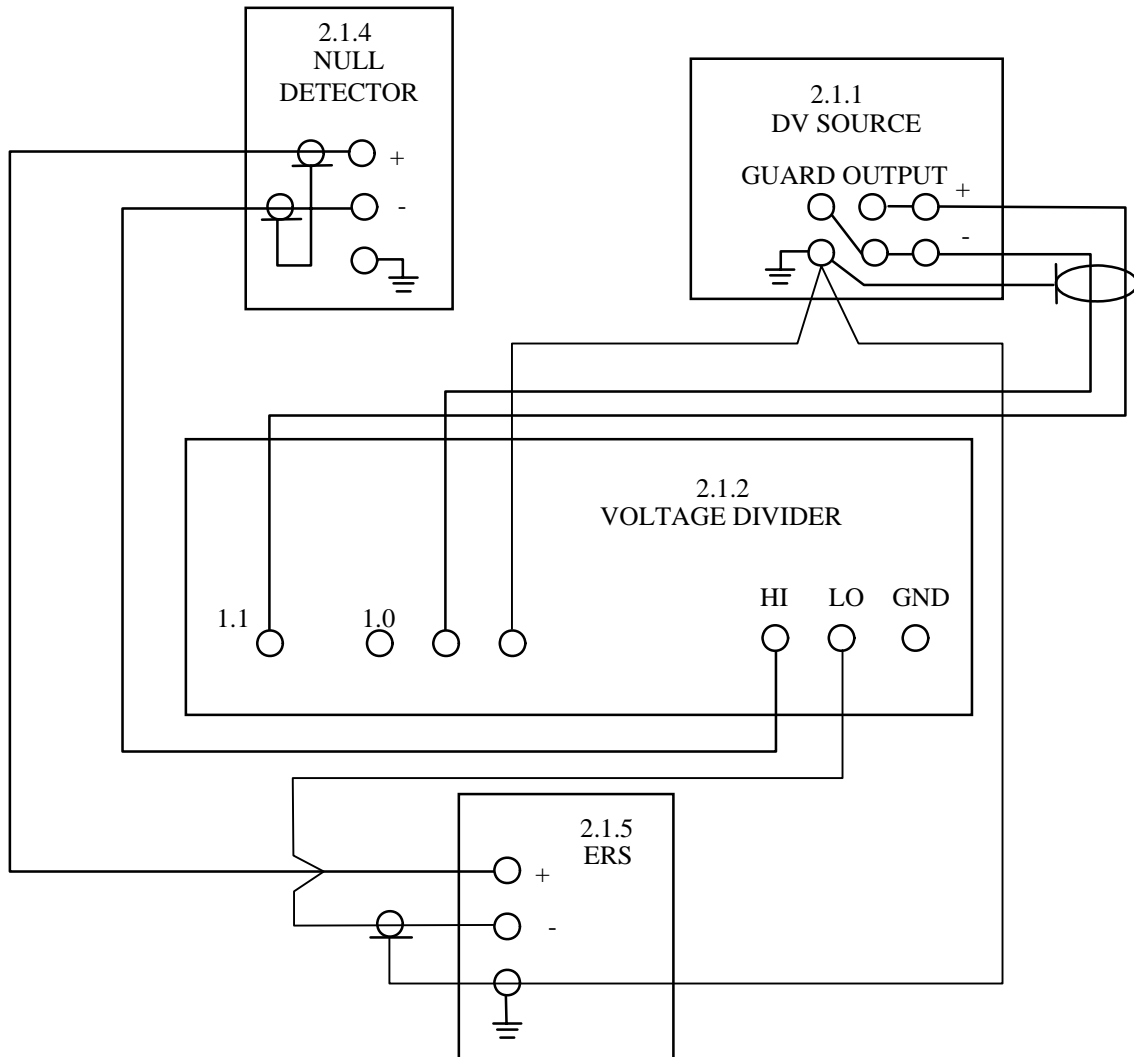

Figure 1. DC Volts Reference Setup (20 V or less)
3.3 Connect the applicable equipment as shown in Figure 1, the reference setup for low voltage tests. Turn the power switches on and allow the setup to warm-up for 1 hour. (During warm-up time, proceed with steps 3.4 through 3.10.)
4.1.2 Establish Reference Voltage. Referring to Figure 1, set the DV source power switch to OPR. Adjust the controls of the DV source and the null detector, as necessary, to obtain a reference null on the null detector. The DV source output indication at null should be approximately 22 V.